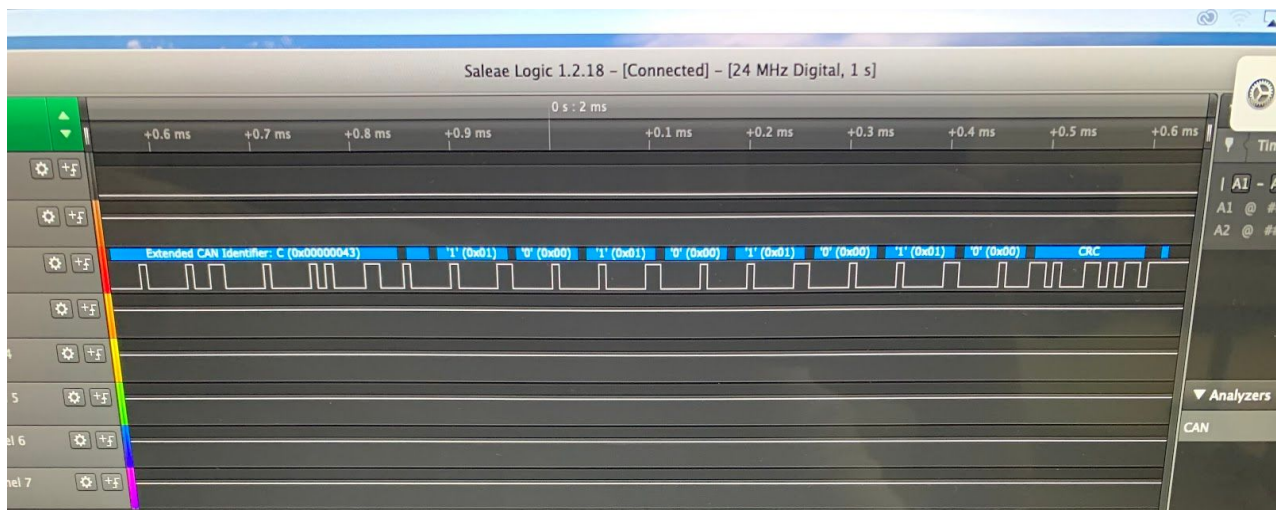
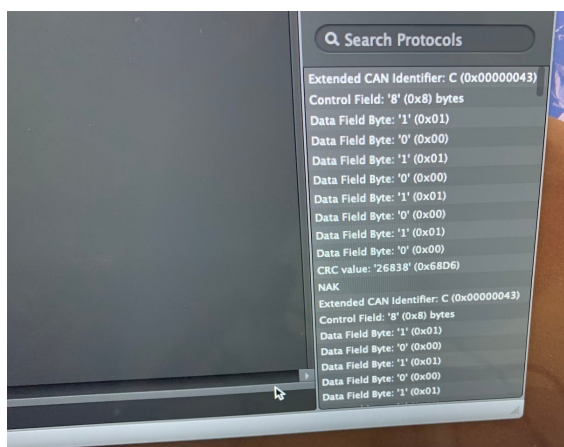

Figure 6. Logic analyzer output waveforms
Figure 7. Logic analyzer data output
7. Examples of output and hardware are shown in Fig. 6 and Fig. 7. Note the LED and push button were removed later as they were unnecessary.